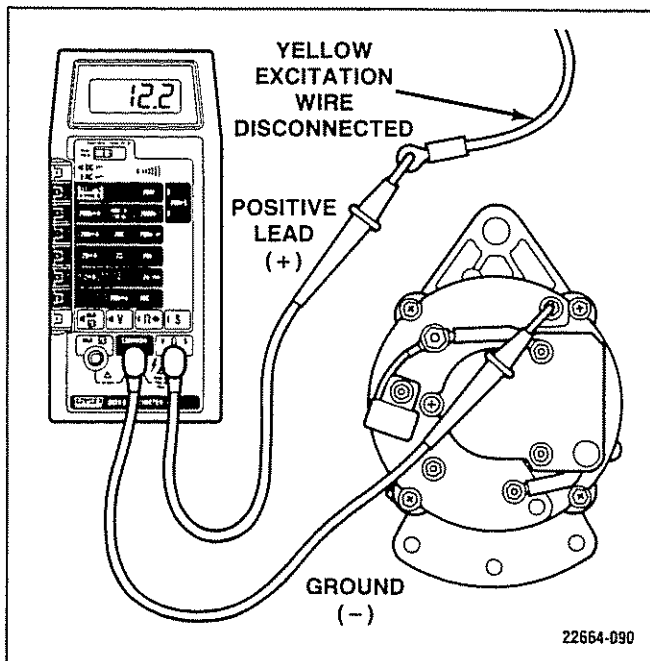

Figure 6-116. Testing Exciter Lead
5. If no reading is obtained, an opening exists in alternator-excitation lead or in excitation circuit of regulator. Disconnect yellow lead from regulator. Connect positive voltmeter lead to yellow lead and negative voltmeter lead to ground. If voltmeter now indicates approximate battery voltage, voltage regulator is defective and must be replaced. If no voltage is indicated, check excitation circuit for loose or dirty connections or damaged wiring. (Figure 6-116)